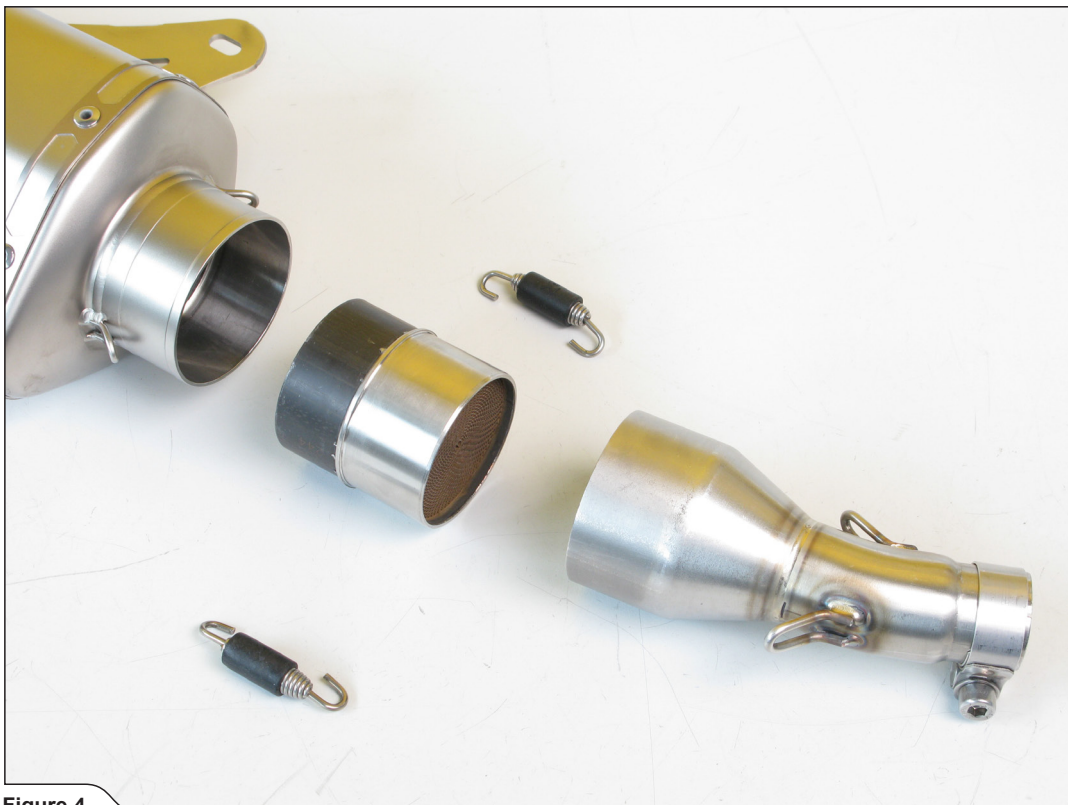

Figure 4
2. Correctly assemble the muffler, catalytic converter, link pipe and springs (**Figure 4, 5**).